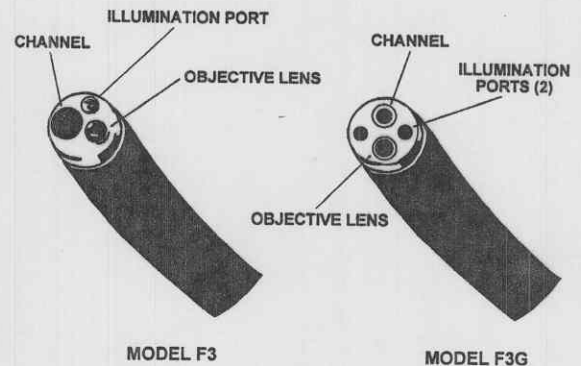

Figure 2-5. Distal tip.
Model unique characteristics and specifications are identified in the preceding table 1-3. Model differences are also illustrated in figure 2-5. End item component differences are identified in appendix C.
c. *Distal tip (fig 2-5).*